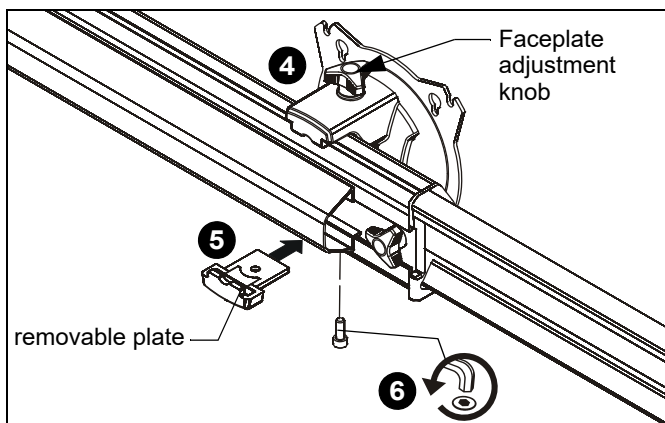

Figure 26
NOTE: Be sure the faceplate adjustment knob is on top when reinstalling the faceplate assembly. (See Figure 26)
NOTE: Faceplate assemblies may be reattached on the fixed part of the arm. (See Figure 26)
4. Place faceplate assembly on array arm at desired mounting position. (See Figure 26)
5. Slide removable plate back into slot at bottom of faceplate assembly. (See Figure 26)
6. Reinstall hex head bolt removed in Step 1 to secure faceplate assembly to array arm. (See Figure 26)